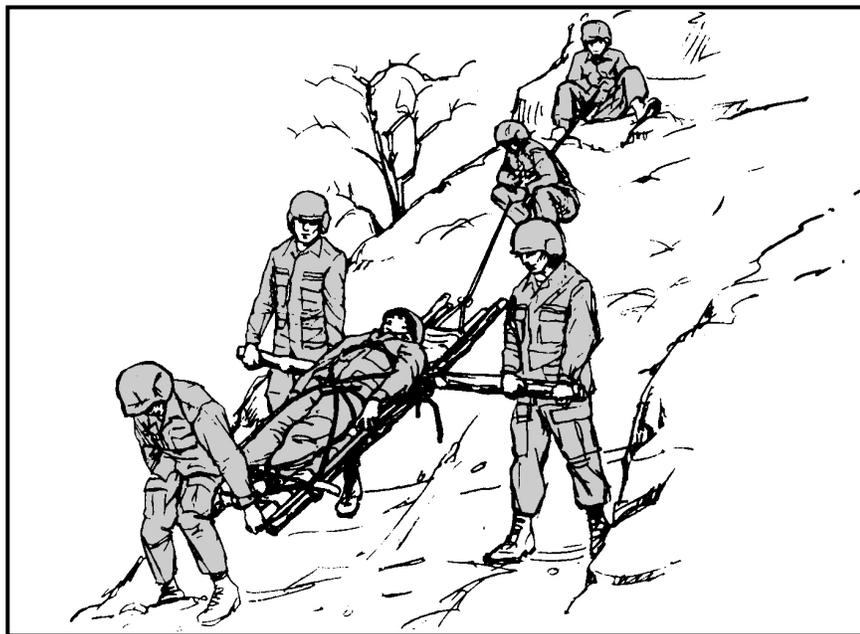

Figure 11-4. Low-angle evacuation—descending.
(6) Attendants guide the litter around obstacles while the crew continues to raise the system.
(7) As the litter nears the cliff edge, the signalman assists the attendant in moving the litter over the edge and onto the loading platform, taking care not to jar the casualty.
c. **Descending Slopes.** When descending a moderately steep slope that can be down-climbed, the litter and victim are prepared as described earlier (Figure 11-4, page 11-12).
(1) One man serves as the belay man and another takes his position on the rope in front of the belay man, assisting him in lowering the litter. The litter bearers take their positions and move the litter down with the speed of descent controlled by the belay man.